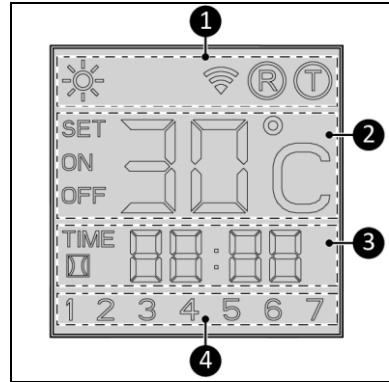

Figure 6
Status indication (Figure 6, pos. 1):
Temperature indication (Figure 6, pos. 2):
Time indication (Figure 6, pos. 3):
Day indication (Figure 6, pos. 4):